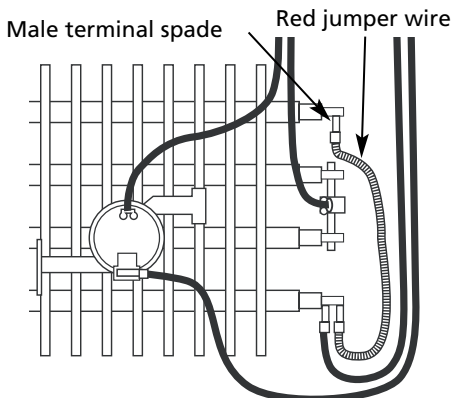

Figure 6 – Converting Heaters To Half Wattage
1. Remove the red jumper wire as shown in Figure 6, page 4 and discard.
1. Remove the red jumper wire as shown in Figure 6 and discard.